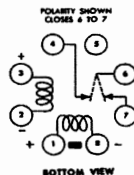

Figure 2-19.—Relay Pin Polarities.
- j. Apply leads of an ohmmeter to relay base pins 6 and 7 (fig. 2-19) and turn the right-hand contact screw clockwise until the ohmmeter indicates that contact is just made with the armature contact.